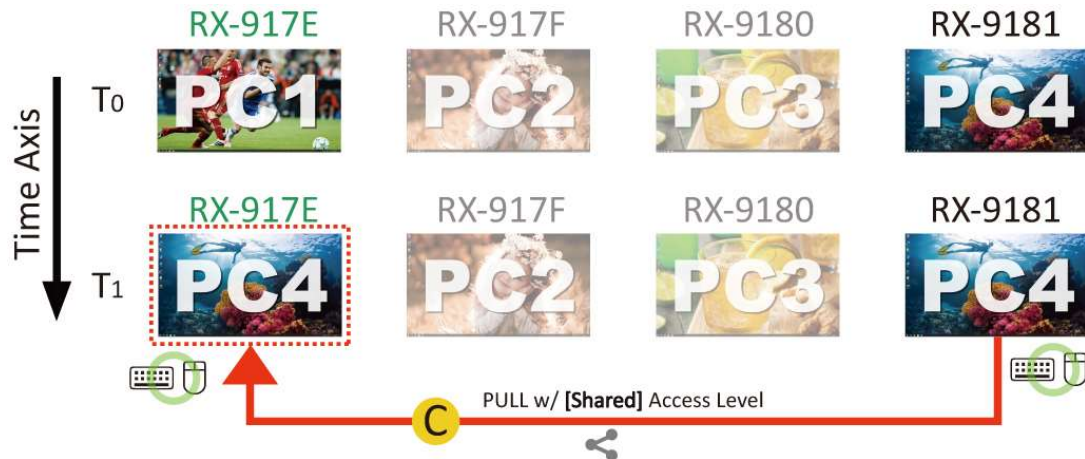

Figure 8-11 TX Resource Pull Operation with [Shared] Access Level
- (C) Double-click the icon  in the row of the RX unit **RX-9181**, representing a PULL of the resource from the **TX-917B** that the **RX-9181** is connecting to, to the RX unit **RX-917E**, as illustrated in Figure 8-11.